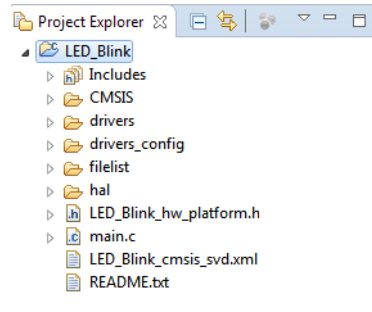

Figure 32 • Project Explorer
14. Copy the main.c file to the **LED_Blink** project in the SoftConsole workspace, as shown in Figure 32.